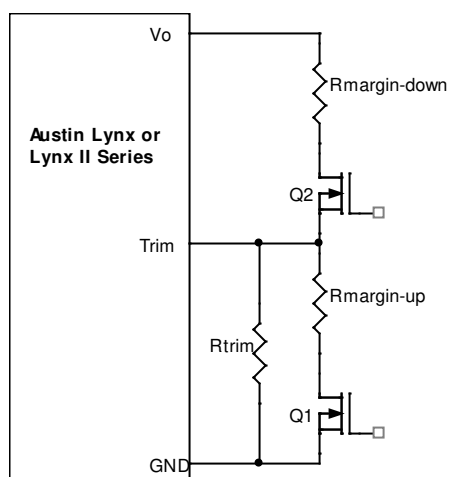

Figure 31. Circuit Configuration for margining Output voltage.
To provide over temperature protection in a fault condition, the unit relies upon the thermal protection feature of the controller IC. The unit will shutdown if the thermal reference point  $T_{\text{ref2}}$ , (see Figure 31) exceeds  $150^{\circ}\text{C}$  (typical), but the thermal shutdown is not intended as a guarantee that the unit will survive temperatures beyond its rating. The module will automatically restarts after it cools down.
Output voltage margining can be implemented in the Austin MicroLynx™ modules by connecting a resistor,  $R_{\text{margin-up}}$ , from Trim pin to ground pin for margining-up the output voltage and by connecting a resistor,  $R_{\text{margin-down}}$ , from Trim pin to Output pin. Figure 31 shows the circuit configuration for output voltage margining. The POL Programming Tool, available at [www.gecriticalpower.com](http://www.gecriticalpower.com) under the Design Tools section, also calculates the values of  $R_{\text{margin-up}}$  and  $R_{\text{margin-down}}$  for a specific output voltage and % margin. Please consult your local GE technical representative for additional details.